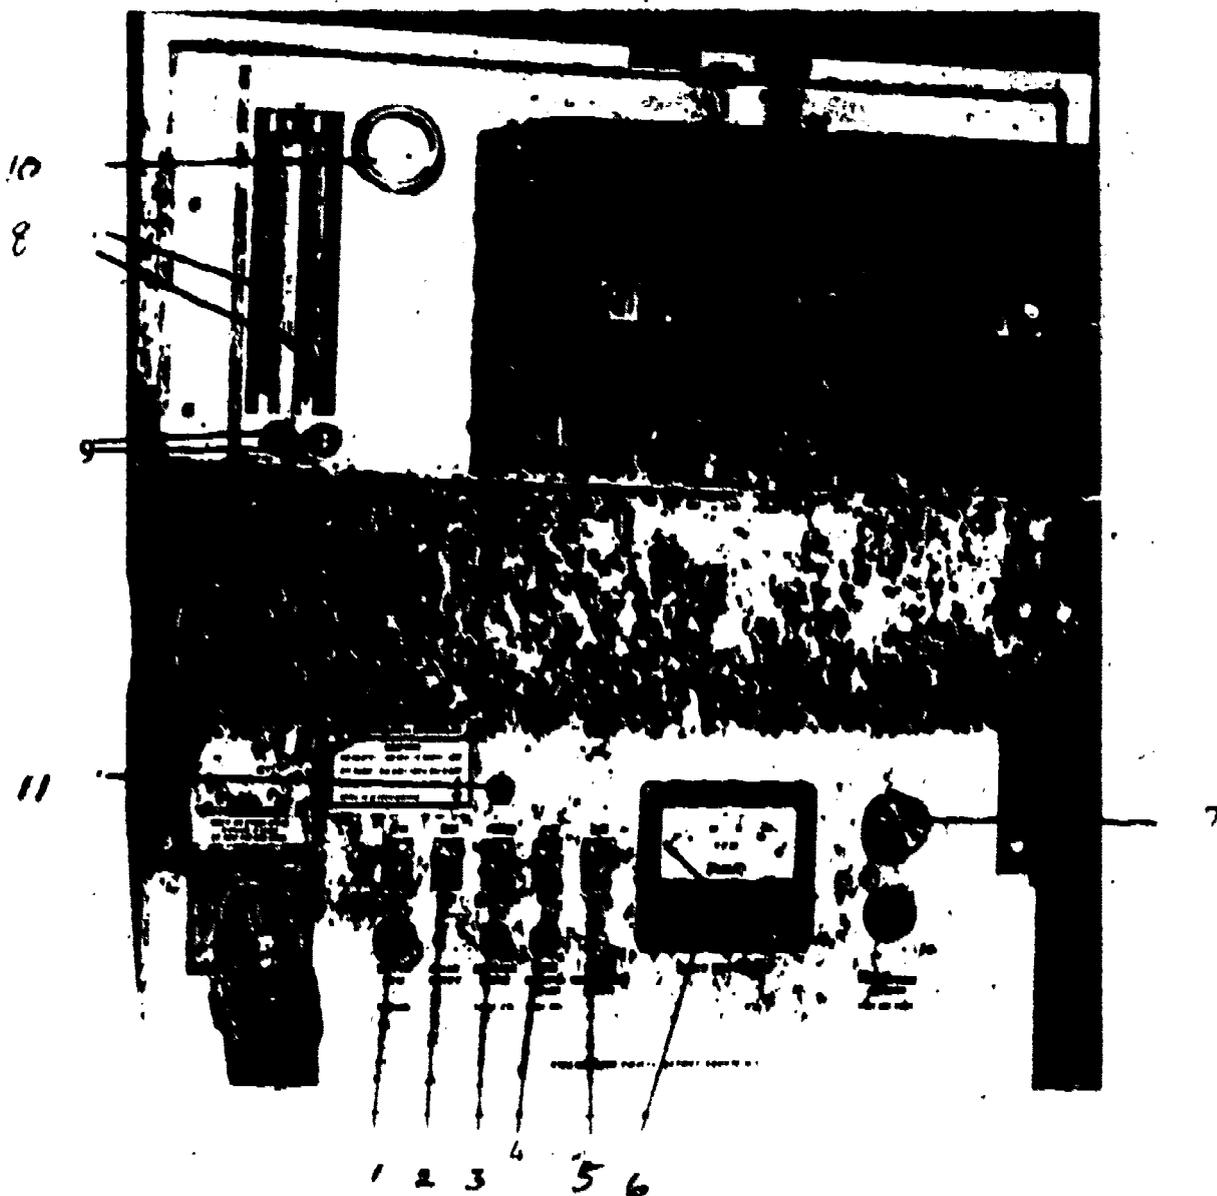

Figure 1-27. Versamat Controls
2. On a separate sheet of paper, identify the items listed as numbers 1 through 11 in Figure 1-27.